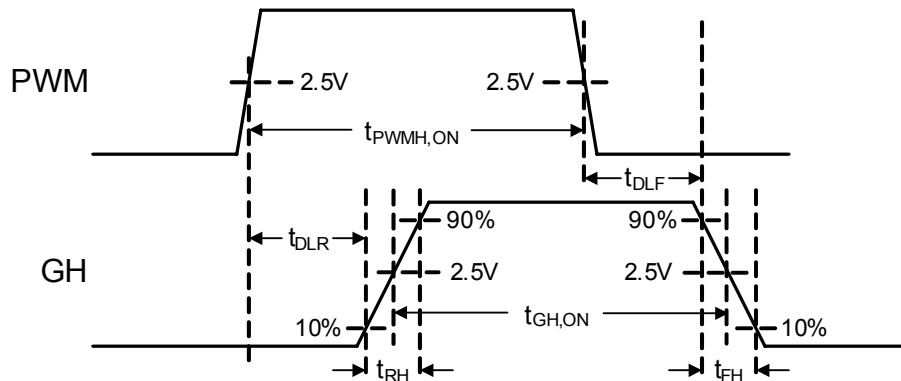

FIGURE 3. TIMING DIAGRAM
13. $t_{GH,ON}$ timing is shown in Figure 3.